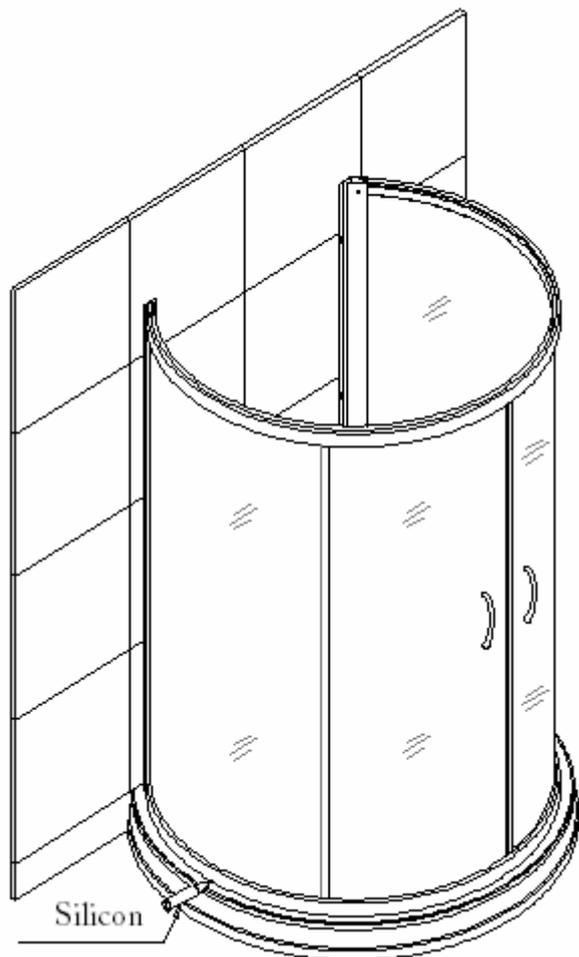

Fig 10
14. Seal with silicon between Wall profile, Glass Profile, bottom rail and tray (fig 10).